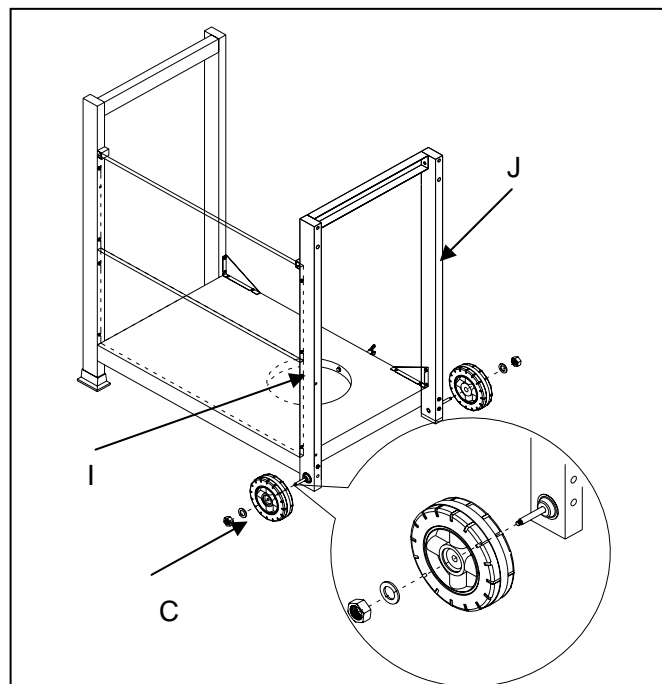

Fig. 8
Loosen but do not remove the one screw which is pre-assembled on the Bottom Panel (B). Secure solid end of the Diagonal Bar Barrier (Y) to the underside of the Front Panel (S), then secure other end of Diagonal Bar Barrier (Y) by clipping the open hole onto the screw which pre-assembled on the Bottom Panel (B). Tighten the loosened screw. As show in Fig. 8.